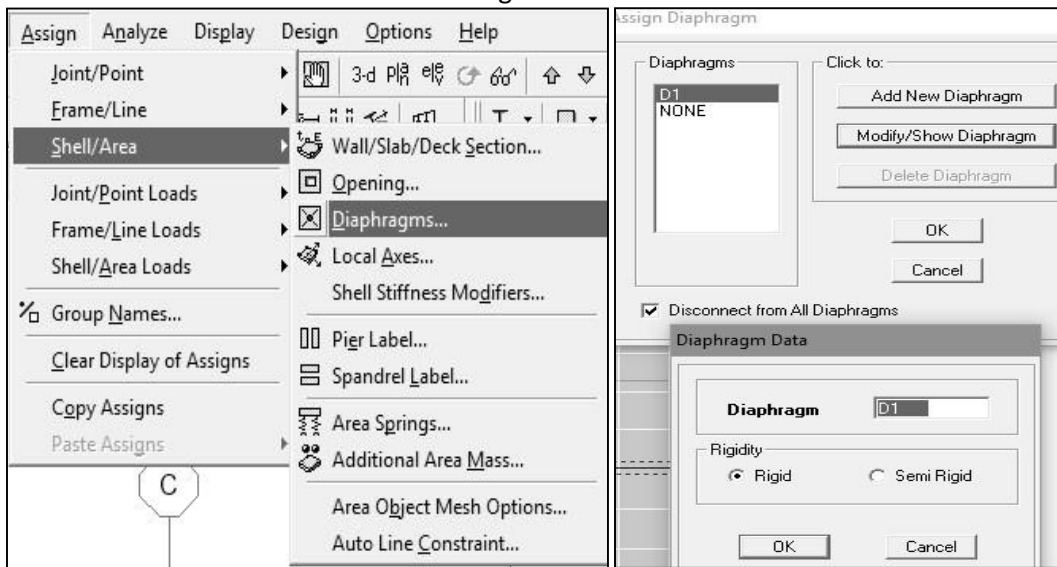

Fig . 4.24
4.3.2 **Diaphragm:** Select All → Assign → Shell/Area → Diaphragm → D1 → Modify/Show Diaphragm → Rigid → OK → OK. (Fig: 4.24)